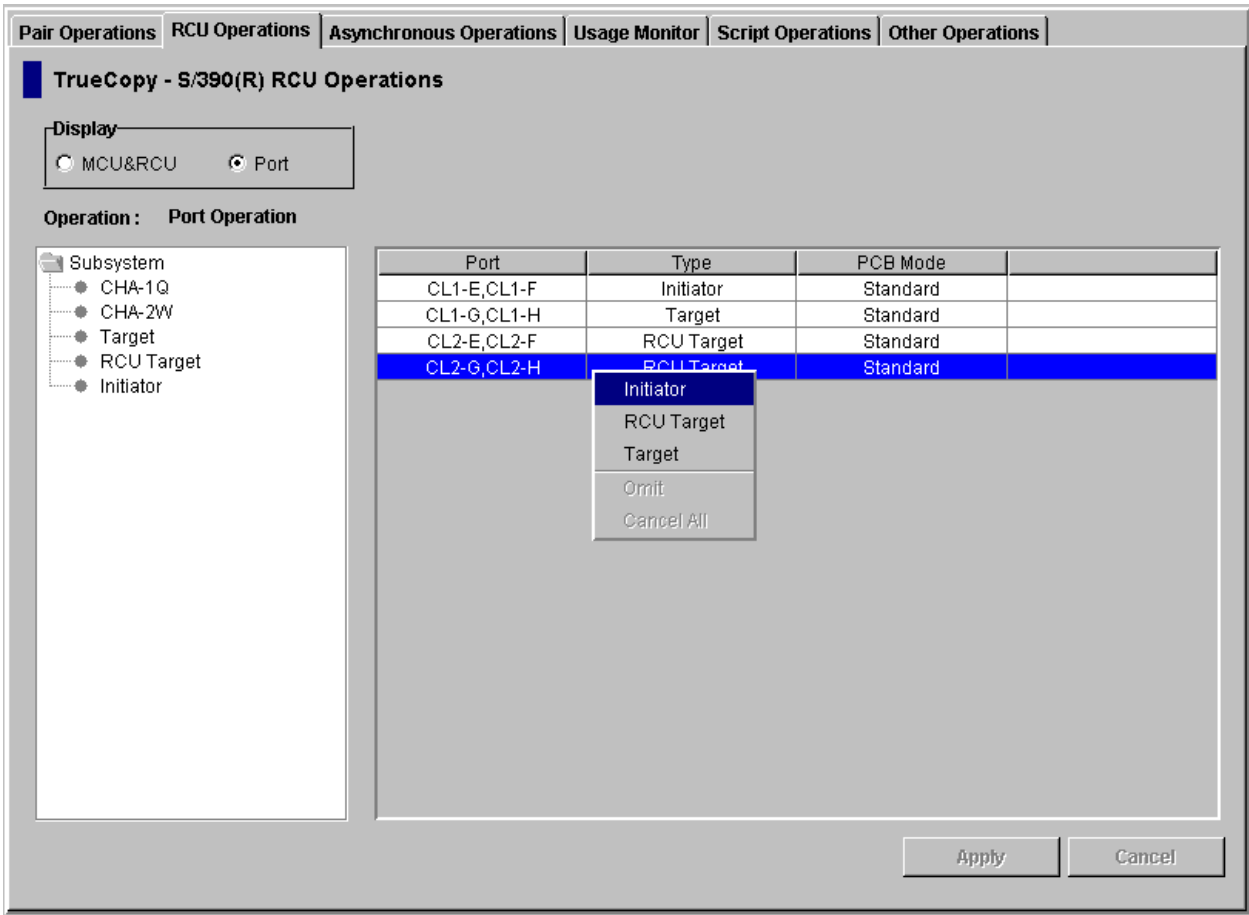

Figure 3.10 Configuring the RCU Target and Initiator Ports
2. At the RCUs (i.e., remote site), use the TrueCopy - S/390® Remote Console software to configure the fibre-channel ports which are connected to the MCUs as RCU target ports (see Figure 3.10) (see section 4.2.1 for instructions).
5. Configure the fibre-channel ports which are connected to the RCUs as initiator ports (see Figure 3.10) (see section 4.2.1 for instructions).